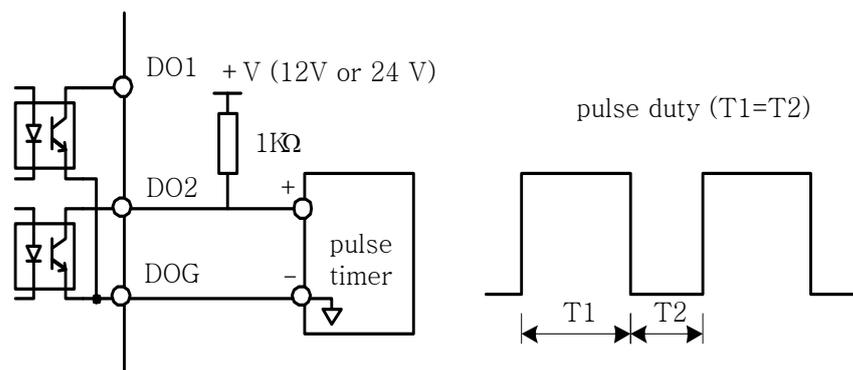

Fig 46 Pulse signal output
(35) Pulse output multiplication-gain selection (Sn-35)
- Refer to Fig 46 for pulse signal output.